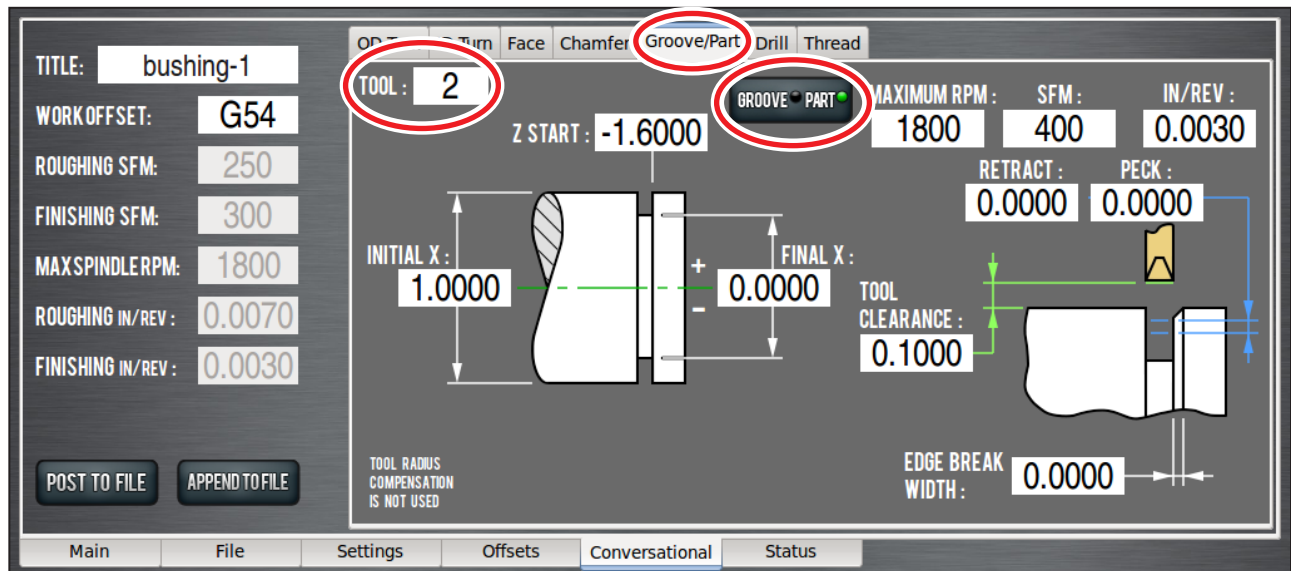

Figure 4.33
1. Click *Groove/Part* tab on the *Conversational* screen; toggle the *Groove/Part* button to select the *Part* screen. Enter values shown in **Figure 4.33**.
NOTE: Ensure tool 2 is entered in the Tool DRO (see **Figure 4.33**). Using tool 1 generates an error message to alert that a right-hand turning tool is not a valid tool for a parting routine.